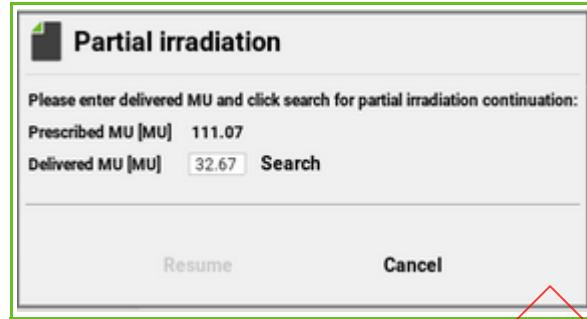

Figure 39-22. Resuming irradiation
4. In the popup, enter the delivered MU of the partial irradiation to be resumed, and click **Search** (Figure 39-22).